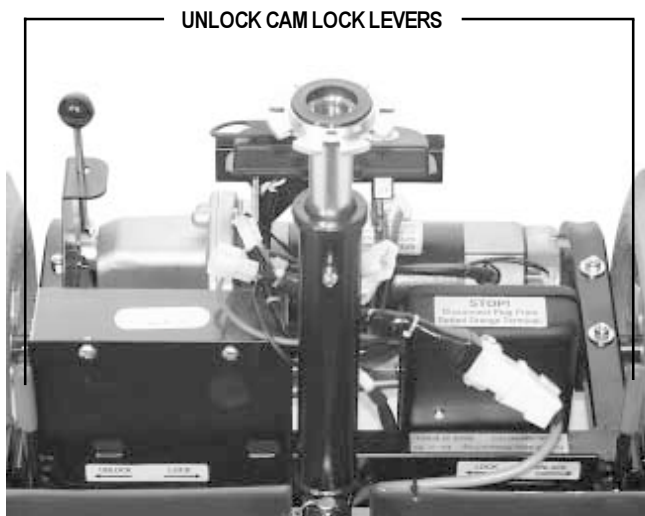

Figure 22. Unlock Cam Lock Levers
9. Lift the cam lock levers to the unlocked (vertical) position and remove the locking pin from the frame. See figures 22 and 23.